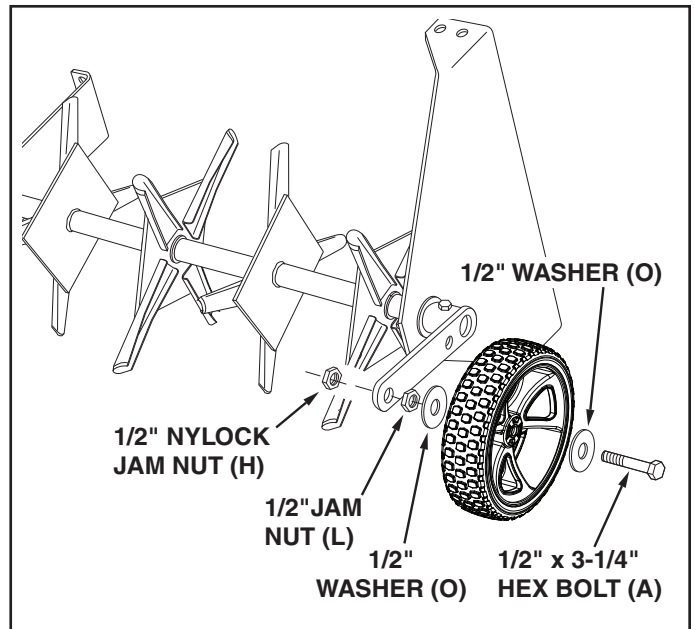

FIGURE 6
7. Assemble a wheel to one of the wheel brackets using a 1/2" x 3-1/4" hex bolt (A), two 1/2" washers (O), a 1/2" jam nut (L) and a 1/2" nylock jam nut (H). Adjust the nuts so that the wheel is held securely but will spin freely. Repeat on other side. See figure 6.